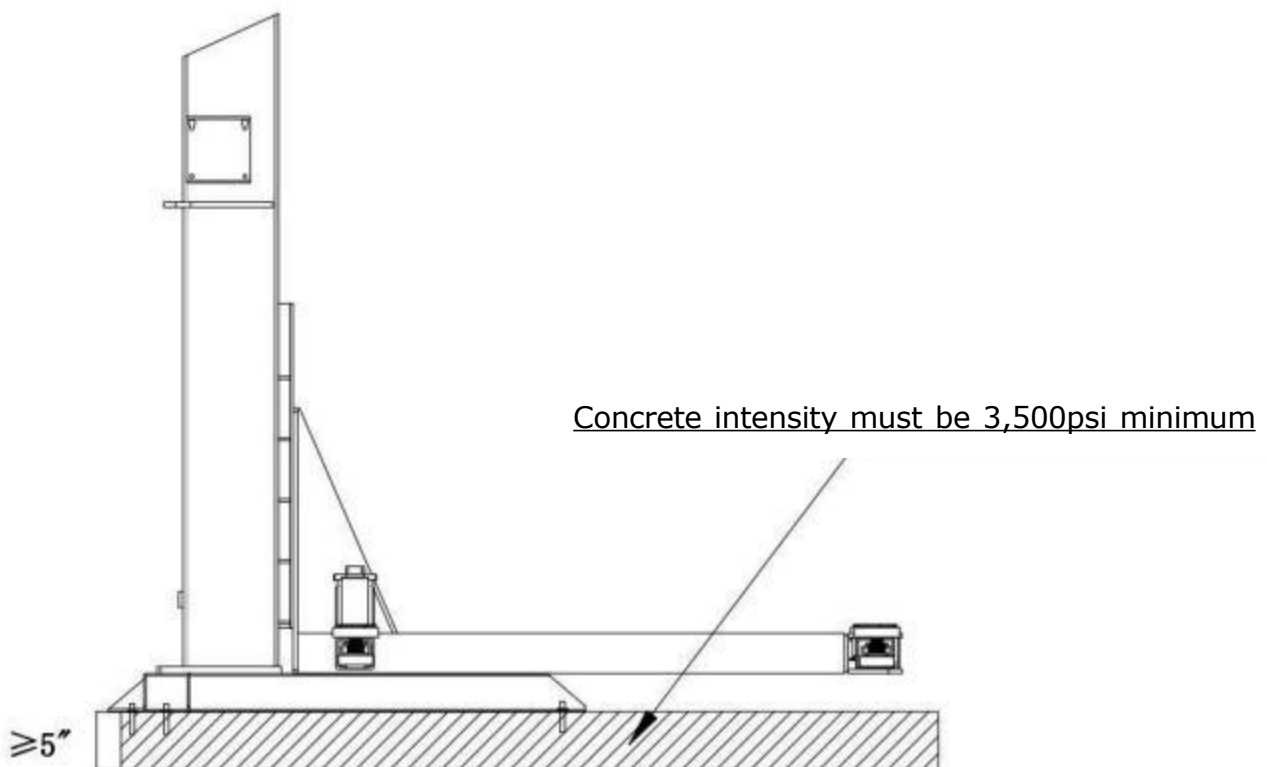

Fig.5
C.Specification of concrete (See Fig. 5)